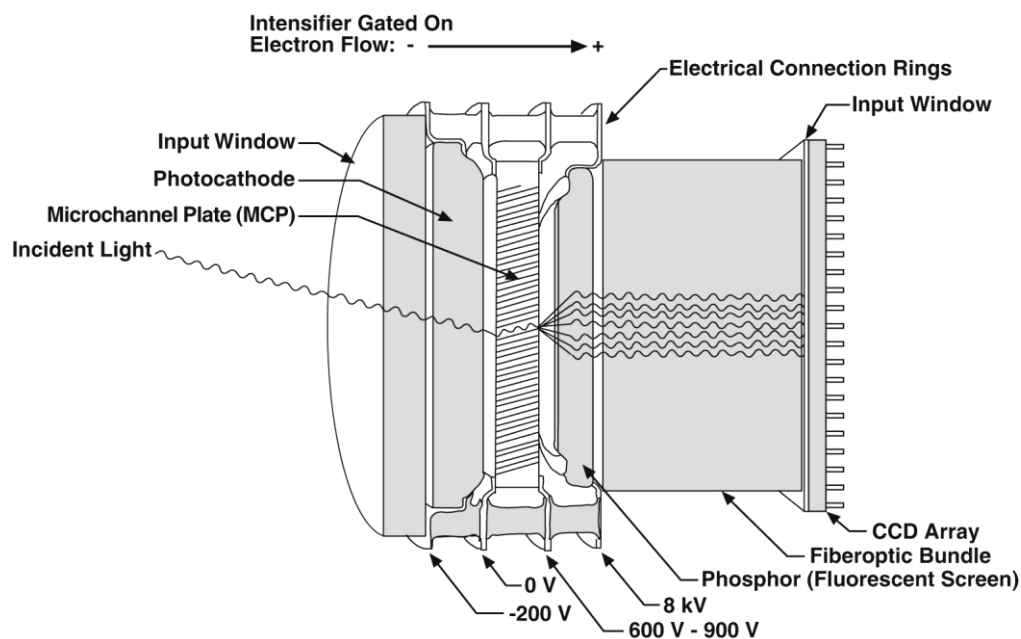

Figure 2. Major Components of the Intensifier-CCD
1. Incident photons pass through the intensifier input window, strike the photocathode, and release electrons. (*see Figure 2*)